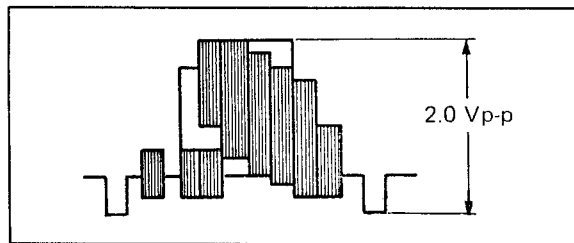

Fig. 6-23 Video output (without load)
3. Adjust R28 (P. B. OUT LEVEL) so that the level of TP-6 is 2.0 Vp-p as shown in Fig. 6-23.